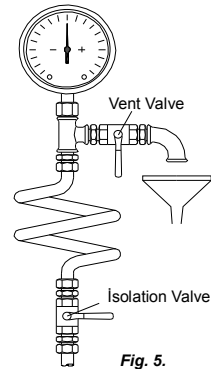

Fig. 5.
- Pressure and vacuum gauges must be properly anchored and connected at the measuring points located on the pump flanges by means of or on the pipes close to the flanges approximately 8 mm diameter tubing with pig tail configuration to lessen pressure fluctuation. For safety purposes isolating and vent valves should be fitted before the gages (Fig. 5).